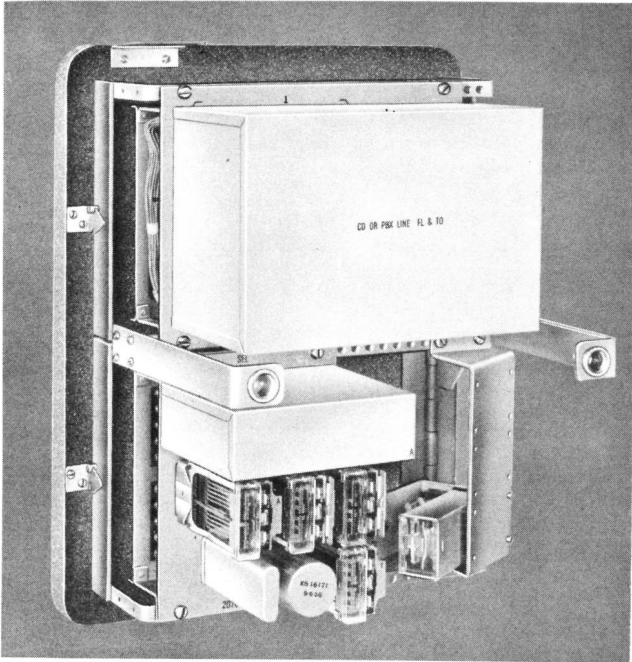

Fig. 5 - Two 15A Apparatus Mountings on 173A Backboard, 1A1 System
3.05 Fig. 5 shows a 1A1 system on two 15A apparatus mountings, mounted on a 173A backboard.